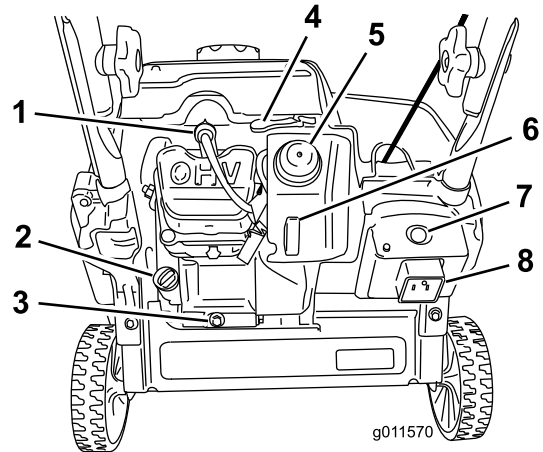

Figure 11
- Clean around the oil fill cap (Figure 11).
3. Clean around the oil fill cap (Figure 11).